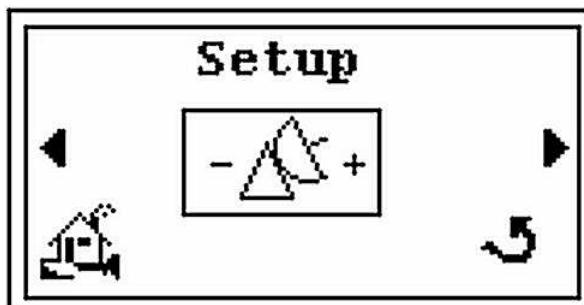

Figure 2-46 Setup Screen
3. Press the ► and the *Setup* screen appears (Figure 2-46).